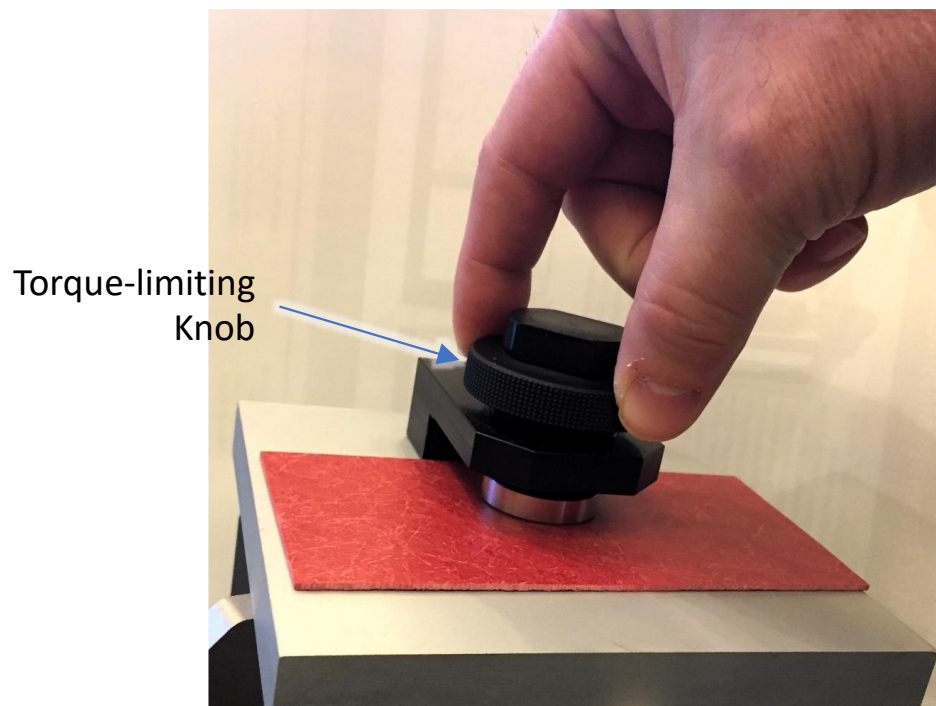

Figure 7. Photograph of torque-limiting knob
3. Note the knob includes a special secondary knob for limiting the torque of the electrode against the specimen. Use the torque-limiting knob (Figure 7) to achieve final tightness so that the same torque/force is used for both the calibration measurement and the unknown specimen measurement